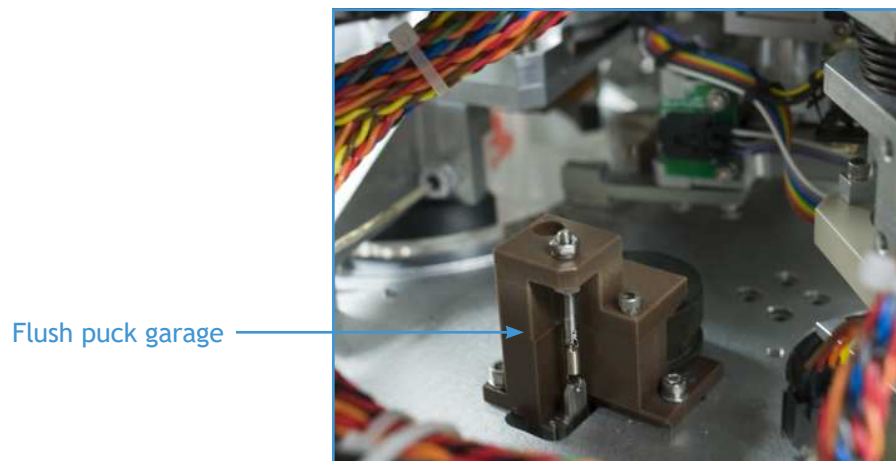

Figure 1-7: Flush puck garage
1. Using a 3/32" ball-end Allen wrench, unthread the three screws that secure the base of the Flush Puck Garage to the ESP. See Figure 1-7.